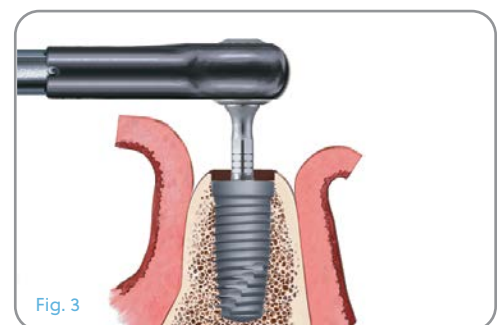

Fig. 3
**Step 3:** When placing the implant, the implant platform should reach the same position that the NTDI platform previously attained. If the implant platform is positioned higher in relation to the crest of the bone than the platform of the NTDI previously demonstrated, or if the surgical motor stalls prior to full placement of the implant due to insufficient torque, then hand ratcheting is recommended to achieve the proper final implant seating position [Fig. 3].